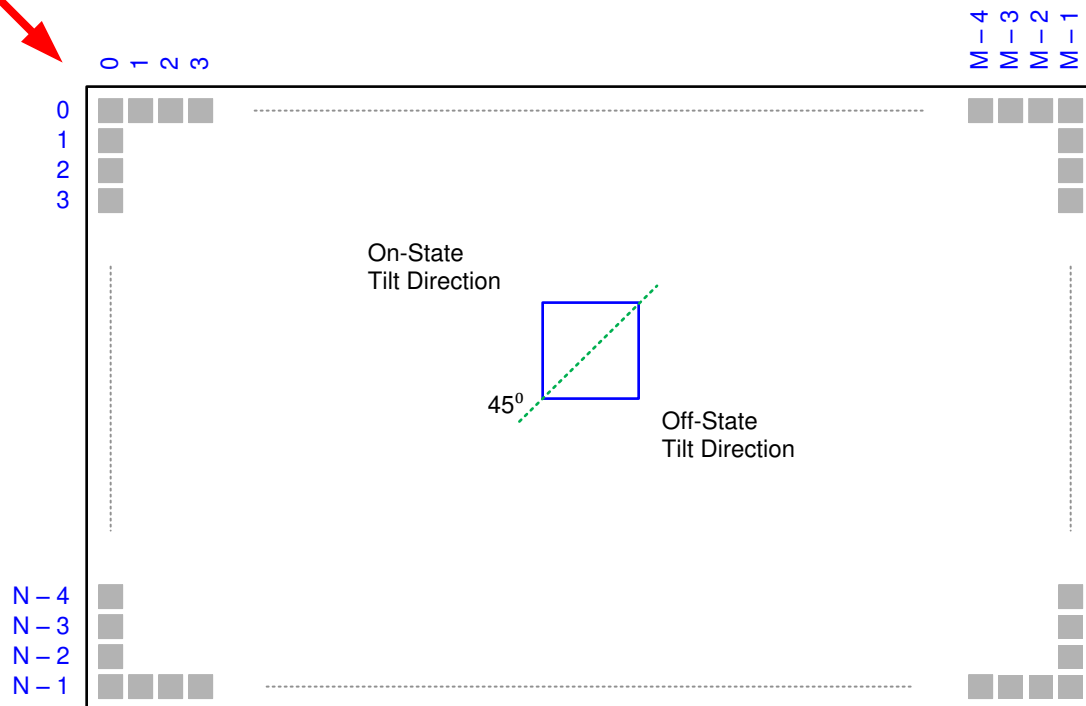

图 5-9. Micromirror Landed Orientation and Tilt
- (1) Measured relative to the plane formed by the overall micromirror array.
- (2) Additional variation exists between the micromirror array and the package datums.
- (3) This represents the variation that can occur between any two individual micromirrors, located on the same device or located on different devices.
- (4) For some applications it is critical to account for the micromirror tilt angle variation in the overall system optical design. With some system optical designs the micromirror tilt angle variations within a device may result in perceivable non-uniformities in the light field reflected from the micromirror array. With some system optical designs the micromirror tilt angle variation between devices may result in colorimetry variations, system efficiency variations, or system contrast variations.
- (5) See figure 图 5-9.
- (6) Conditions of acceptance. All DMD image performance returns are evaluated using the following projected image test conditions:
- (7) Bright pixel definition: a single pixel or mirror that is stuck in the ON position and is visibly brighter than the surrounding pixels.
- (8) Dark pixel definition: a single pixel or mirror that is stuck in the OFF position and is visibly darker than the surrounding pixels.
- (9) POM definition: The rectangular border of off-state mirrors surrounding the active area.